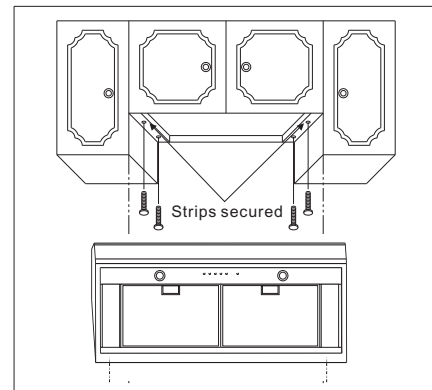

Fig.7
- c. Position the strips on the cabinet bottom and screw the strips securely to the cabinet (Fig.7)
- a. The six keyhole mounting slots for the hood. Mark these onto the bottom of the cabinet; or, if the cabinet bottom is recessed. Onto the wood strips (Fig.7)
4. Screw the four 1" wood screws (for mounting the hood) into the exact center of the arrow and of the keyhole mounting slots marked on the cabinet bottom (for flush installations), or marked on the 1"x2" wood strips (for recessed cabinet installation) (Fig.7) Do not turn the mounting screws in all the way. Allow 3/8" of screw to project, so the hood can be fitted place.